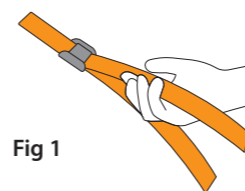

Fig 1
4. Pull the strap through buckle as in figure 1.